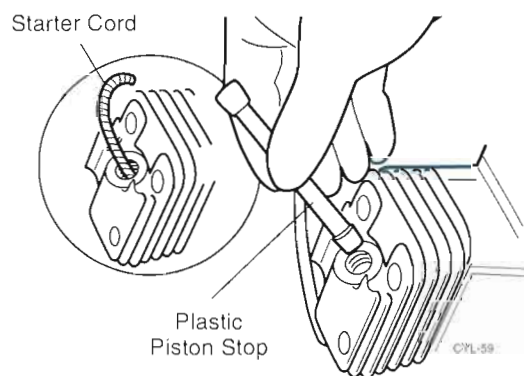

Figure 13.5 Lock the Crankshaft
STEP 1. Remove the spark plug, and then lock the crankshaft by inserting a plastic piston stop or length of starter cord through the spark plug hole (Figure 13.5).